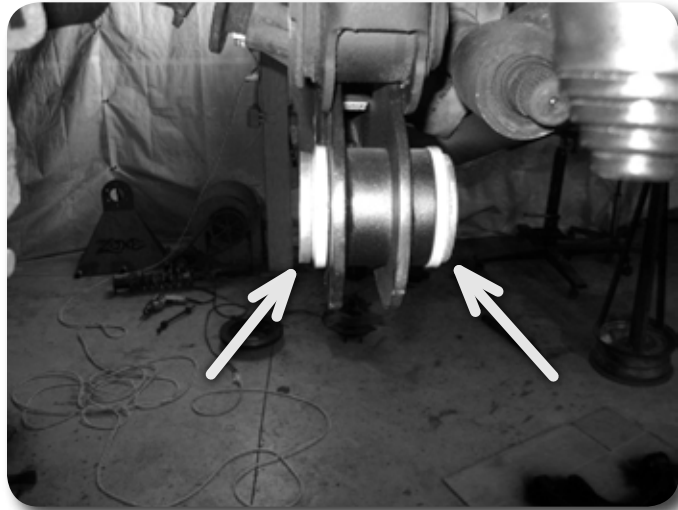

Figure 28
45. Locate the 4 large spacer washers. Two washers are 1/4" thick and two are 1/8" thick. Place the 1/4" thick washers over the lower control arm sleeve on the back side of the new bushing and the 1/8" washer on the front. **Figure 28**